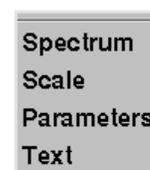

Figure 81. Plot Menu Window
2. Press the right mouse button anywhere in the workspace to open the plot menu window shown in **Figure 81**.